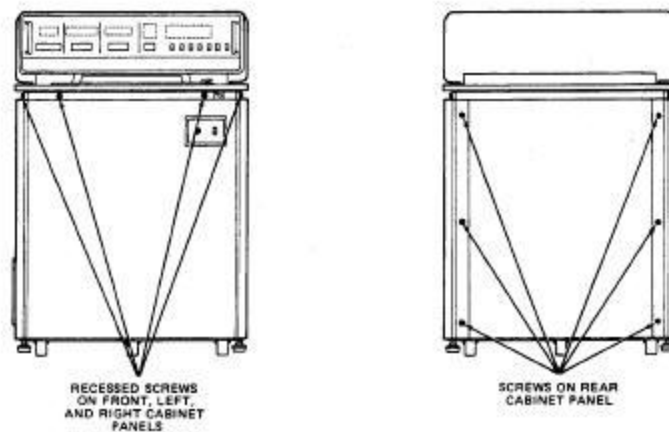

Figure 11-2. Location of Front and Rear Panel Screws
- a. Loosen and disengage the two screws in the upper recess of the panel beneath the top deck cover. Figure 11-2.
- a. Loosen the 3 screws and star washers located on each side of the rear panel. Figure 11-2. (Total of 6 screws and star washers.)